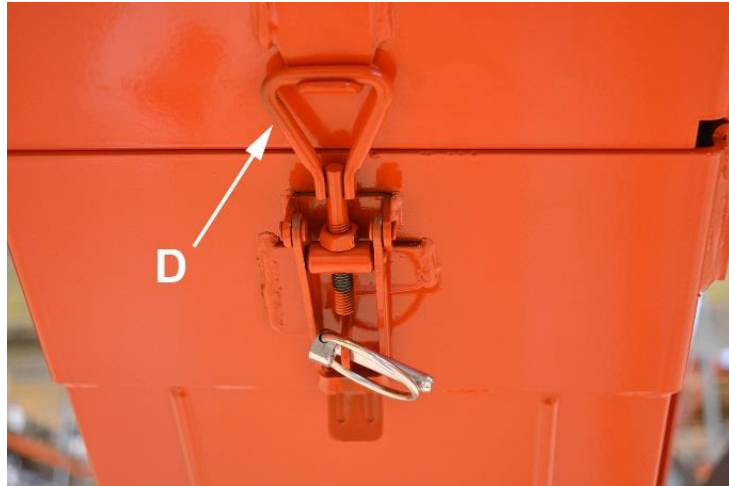

Figure 8.
6. Use a winch to lift the conveyor to the desired angle (max 40°) and lock the upper section of the output conveyor to the operating position using lock D (Figure 8).